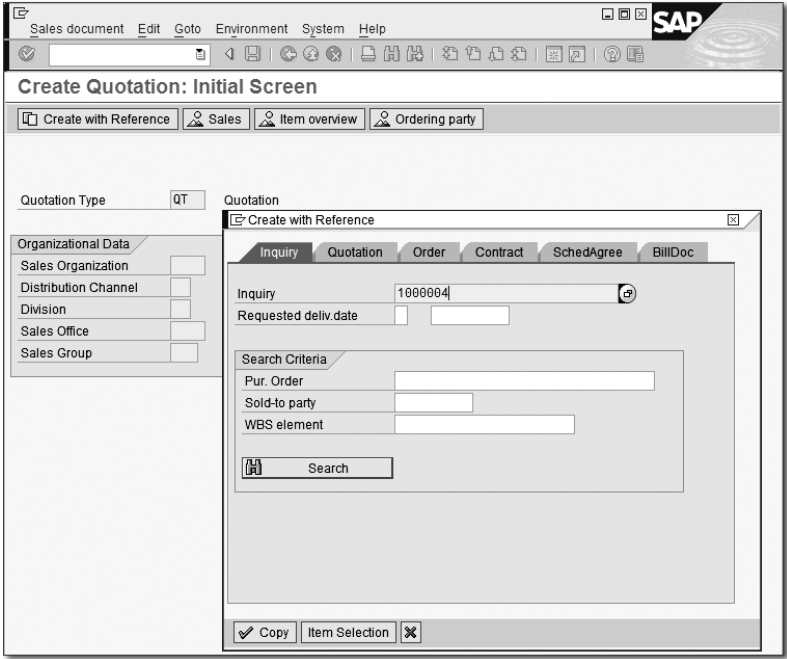

Figure 3.7 Create Quotation: Initial Screen – Create with Reference
1. On the CREATE QUOTATION: INITIAL SCREEN, enter the quotation document type and then click the CREATE WITH REFERENCE button, as shown in Figure 3.7.